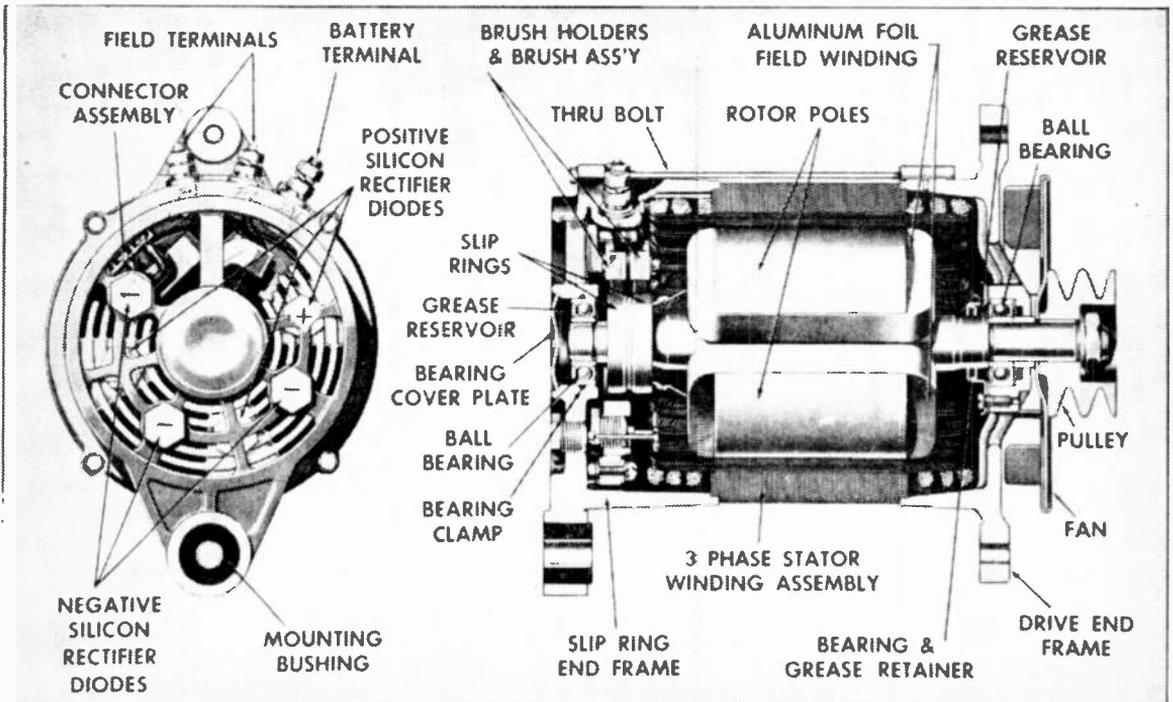
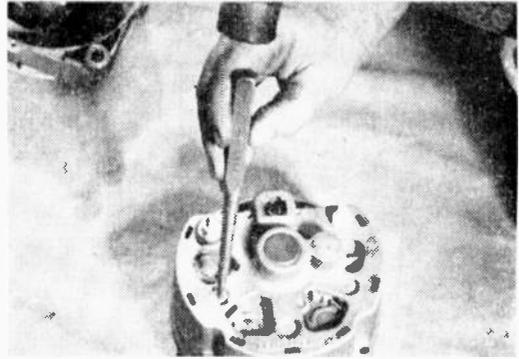

FIG. 4: There are usually six rectifiers in an alternator. Check them for negative and positive readings.
FIG. 5: Faulty rectifiers have to be punched from their seat. Use rosin-core solder to attach the replacements.
line is to replace it. Simply cut off the terminal end of the old line at the generator (Fig. 4) and run a new line to the same terminal at the regulator. Field (FLD), battery (BAT) and ground (GRD) are usually indicated on the regulator or the color code of the wires is the same. Next cut off the other end of the wire at the regulator. Run a new wire of the same size as the old one from the generator or alternator to the regulator. Tie it to the outside of the wiring harness with electrician's tape for a neat job.
**Make Circuit Tests.** Rectifier testing is usually done with a special meter (Fig. 4), although you can use an ammeter calibrated in 1-amp units. Simply touch each rectifier with the probe. The meter should read at least  $1\frac{3}{4}$  amps. If not, the rectifier is the cause of the trouble; replace it (Fig. 5).